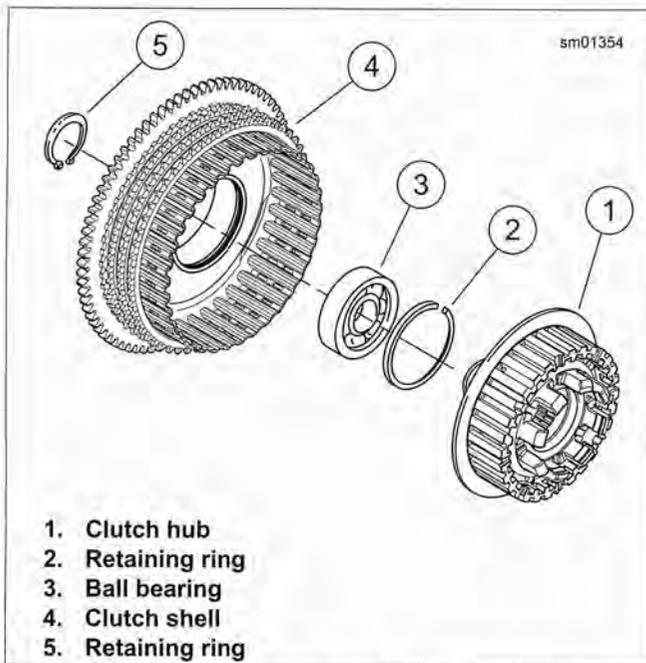

Figure 5-15. Clutch Hub and Shell Assembly
2. See Figure 5-15. If the clutch hub (1) and clutch shell (4) was disassembled, press **new** ball bearing (3) into clutch shell and secure bearing with a **new** retaining ring (2). Press inboard end of clutch hub into clutch shell bearing and secure with a **new** retaining ring (5) on end of hub.